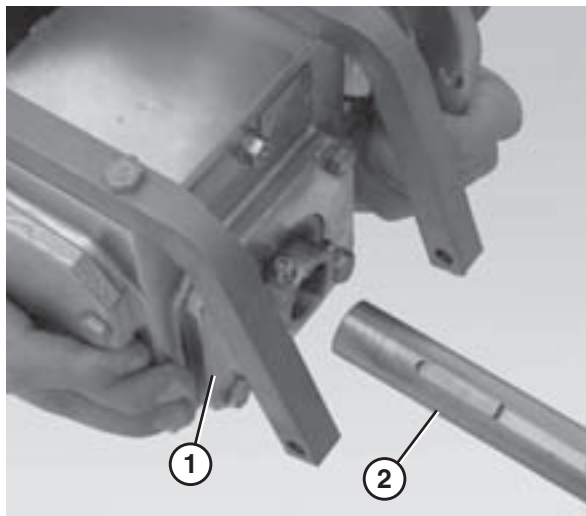

Figure 65
11. Slide the gear reducer (Figure 65, item 1) off the drive shaft (Figure 65, item 2).